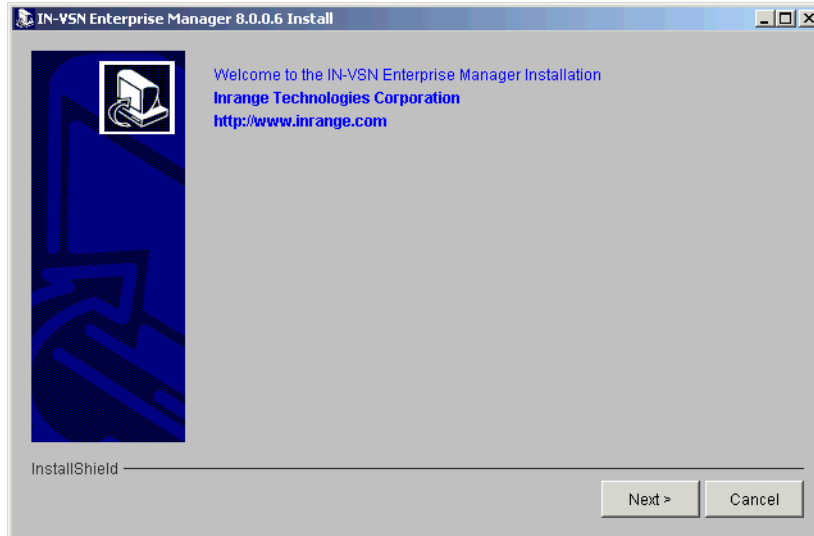

Figure 3-5 IN-VSN Setup window
2. The install wizard appears. Click **Next** to continue the installation as shown in Figure 3-5.